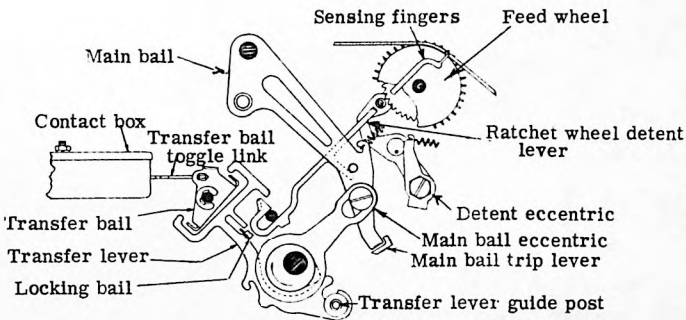

Figure 5
5.3 Feed Wheel Detent (Figure 5)